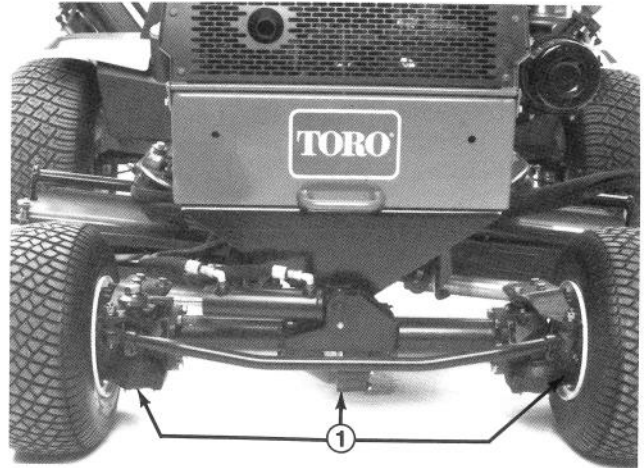

Figure 26
2. Clean area around the (3) drain plugs, (1) on each end and (1) in the center (Fig. 26).